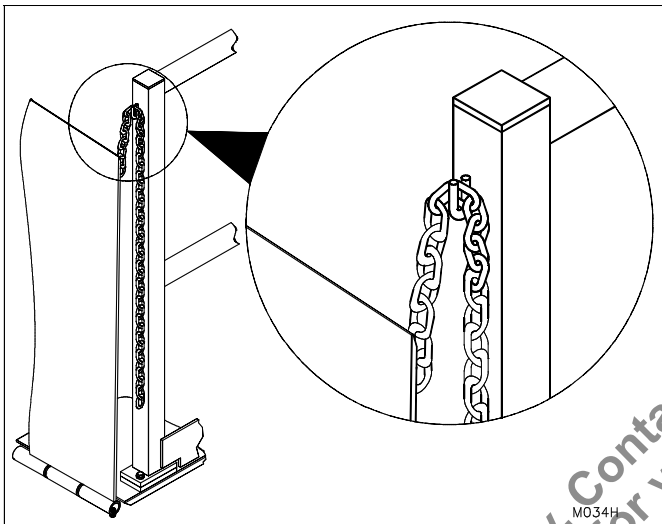
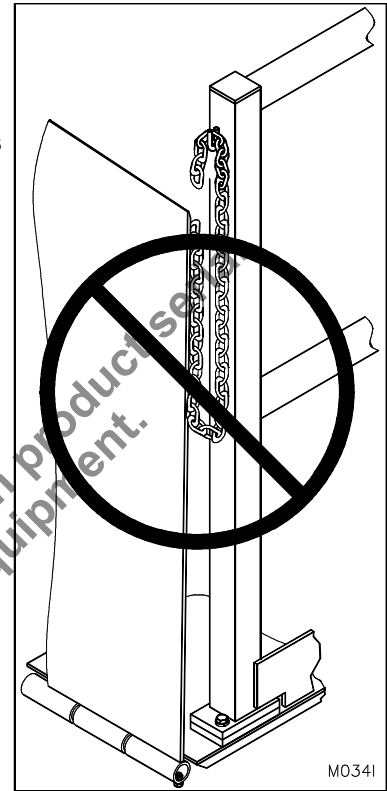

Figure 16: Hinged Bridge in Vertically Stored Position
Figure 15: Hinged Bridge Not Properly Secured (See Figure 16)
7. When not in use, the platform should be in the lowered position with the hinged bridge(s) in an upright vertically stored position with the hinged bridge chain(s) engaged. (See "Figure 16: Hinged Bridge in Vertically Stored Position" on page 31 and "Figure 15: Hinged Bridge Not Properly Secured (See Figure 16)" on page 31).